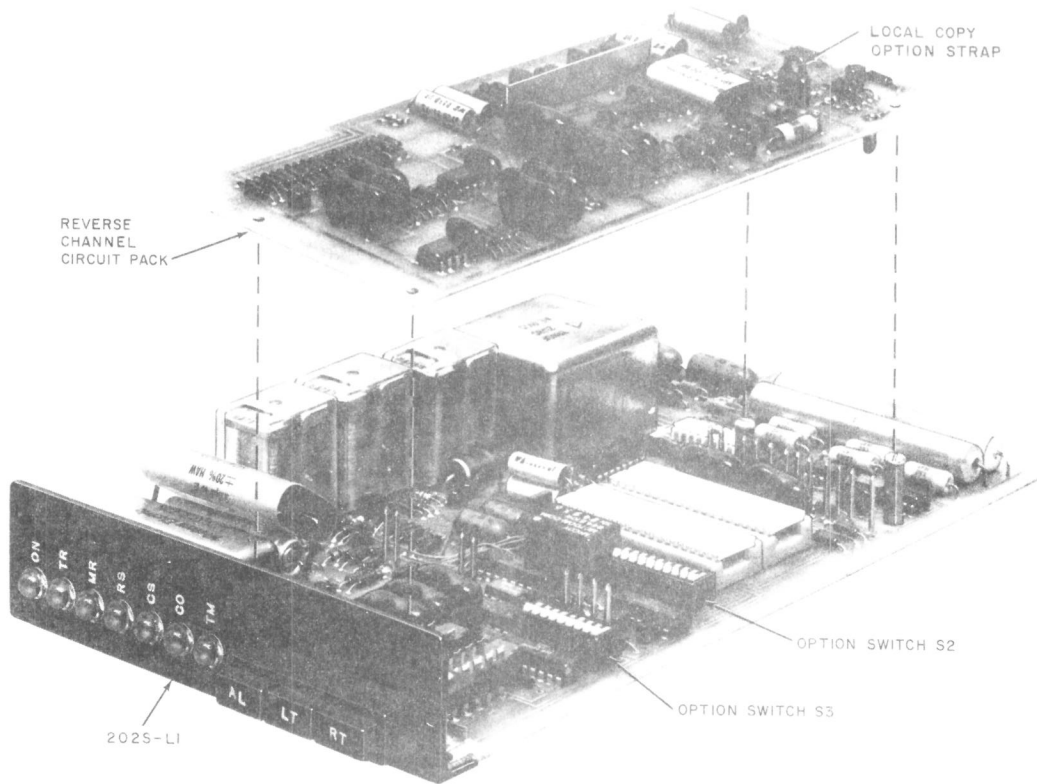

Fig. 5—Data Set 2025-L1/3 (-L1A/3A Is Similar)
**C. Data Sets 202S-L1/3 (MD), -L1A/3A (MD), -L1/3A (MD), and -L1C/3B**
2.08 These list codes specify the basic data set with the reverse-channel circuit pack installed (Fig. 5 and 6). The reverse-channel circuit pack [JY1 (MD), JY2 (MD) or JY3] is a printed wiring board measuring 2.54 cm high by 8.6 cm wide by 19 cm long (1 in. by 3.4 in. by 7.5 in.). It includes filters, switching circuits, and demodulator circuits needed to perform the reverse-channel function. Interconnection to the data set is via 20 female contact receptacles mounted on the bottom of the board which mate with the contact posts on the data set. Four retaining screws secure the circuit packs together mechanically. The screws are stored in threaded eyelets on the front edge of the circuit pack.